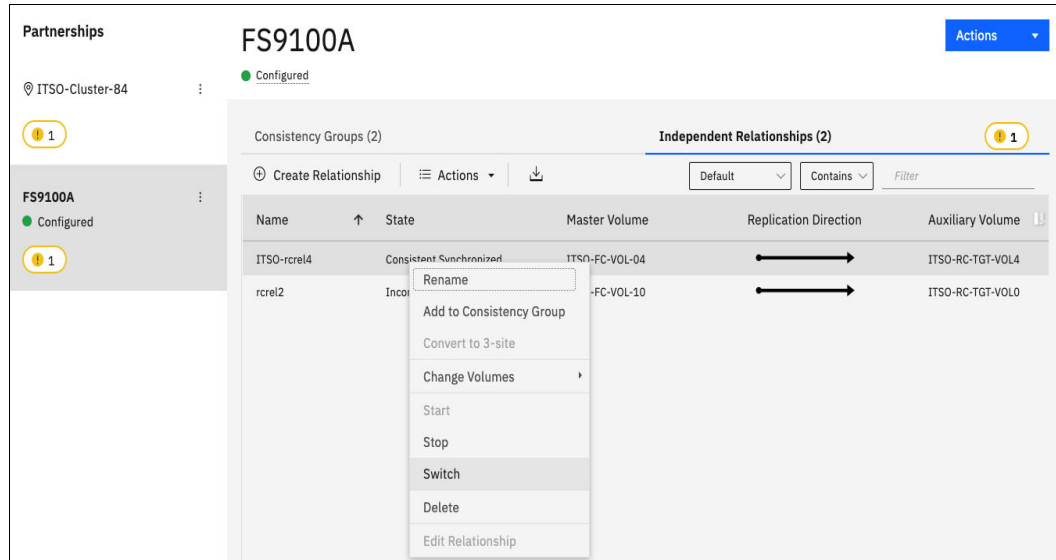

Figure 10-136 Switching the Remote Copy relationship direction
2. Select the target RC system for the relationship to be switched, and go to the **Independent Relationships** tab. Right-click the relationship to be switched and select **Switch**, as shown in Figure 10-136.